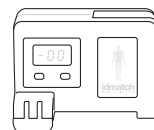

Fig. 1 - Positioning Tool
2. Place the Positioning Tool on a flat surface (0°) and, by pressing the "Zero" button, reset the Digital Inclinometer. (Fig. 1)